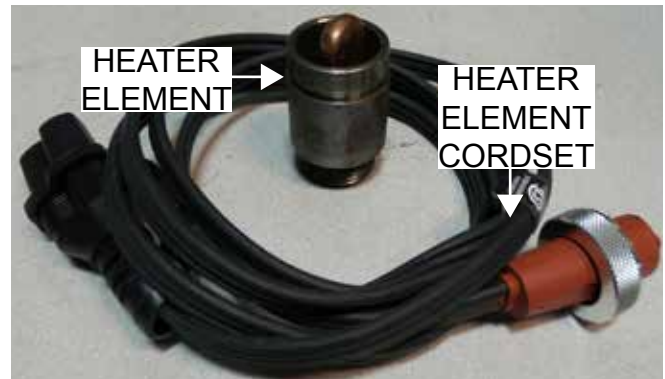

Figure 3. Heater Element and Cordset
1. Locate the Kubota Water Heater element and cordset (Figure 3) in the kit.